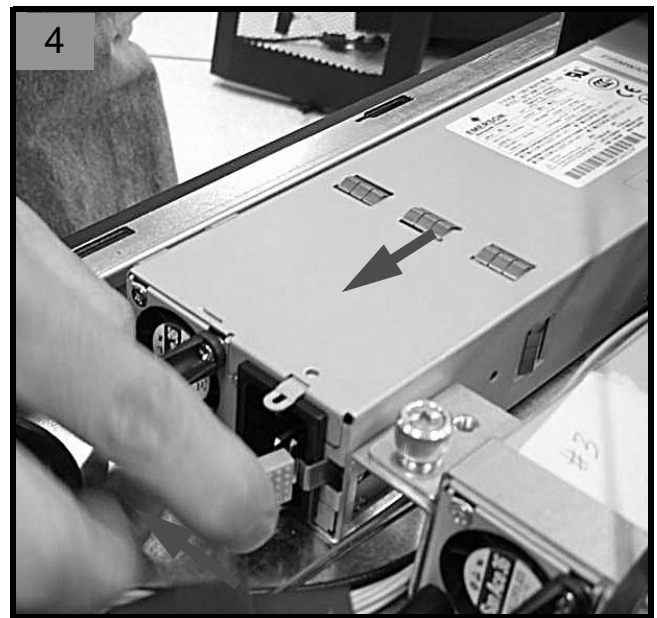

Figure 1-17 Power Supply Removal (Part 2 of 2)
3. Unplug the power cable from the power supply (refer to Figure 1-17 on page 45).
4. Push the power supply release lever and pull the power supply to remove it from the enclosure (refer to Figure 1-17 on page 45).